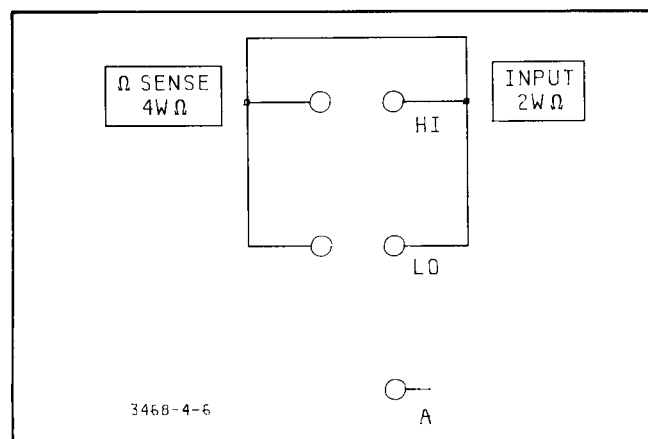
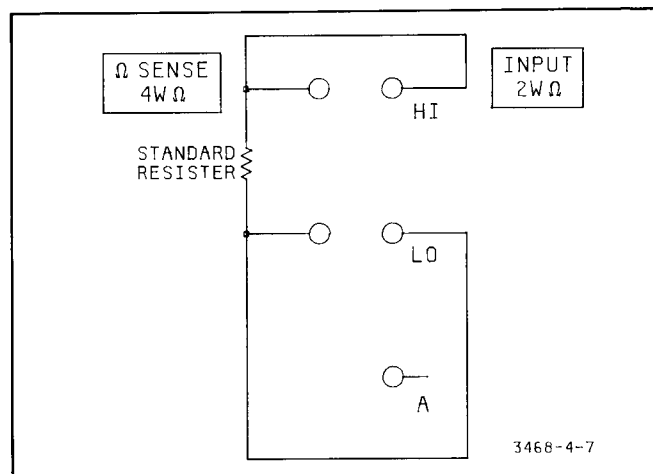

Figure 4-6. 4-Wire Ohms Short
Figure 4-7. 4-Wire Ohms Connection
4-72. If the 3478A is to be tested in the 2-Wire Ohms Function, all test resistors are applied to the 3478A's INPUT Terminals. If the 4-Wire Ohms Function is to be tested, short the INPUT Terminals and connect the test resistors to the terminals, as shown in Figure 4-6 and Figure 4-7, respectively.
b. (Step #2.) Set the 3478A to the desired Ohms Function (see paragraph 4-70). If the 2-Wire Ohms Function is to be tested, short the HI and LO INPUT Terminals. If the 4-Wire Ohms Function is to be tested, short the SENSE Terminals and the INPUT Terminals, as shown in Figure 4-6. Check the reading on the 3478A's display and record the reading on the Test Card.
e. Connect either a 30Ω or 10Ω Standard Resistor to the INPUT Terminals (refer to paragraph 4-71 to determine the resistor value). If the 3478A is to be tested in the 2-Wire Ohms Function, connect the resistor to the HI and LO INPUT Terminals. If the test is to be done in the 4-Wire Ohms Function, connect the resistor as shown in Figure 4-7.